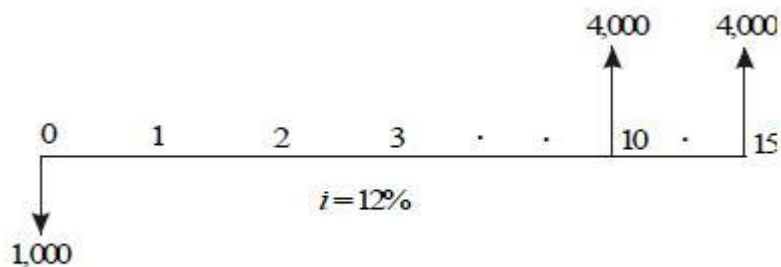

**Fig. 4.11** Cash flow diagram for plan 1.
**Solution Plan 1.** The cash flow diagram for plan 1 is illustrated in Fig. 4.11.